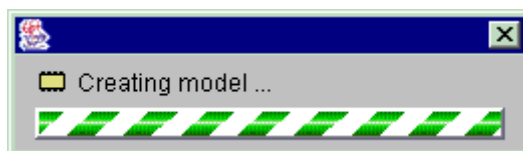

Figure 100 : Bar graph during the equipment creation
- ◆ Click on command **Create new model**; the following bar graph is displayed (Figure 100).